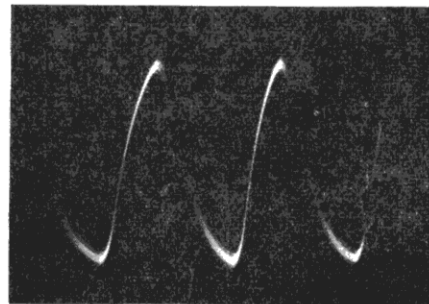

Fig. 85. Pin No. 7 V209
7. Rotate A.G.C. control completely clockwise. Observe waveforms at pin No. 7 and pin No. 5. These should be approximately the same as Fig. 85 and Fig. 86.